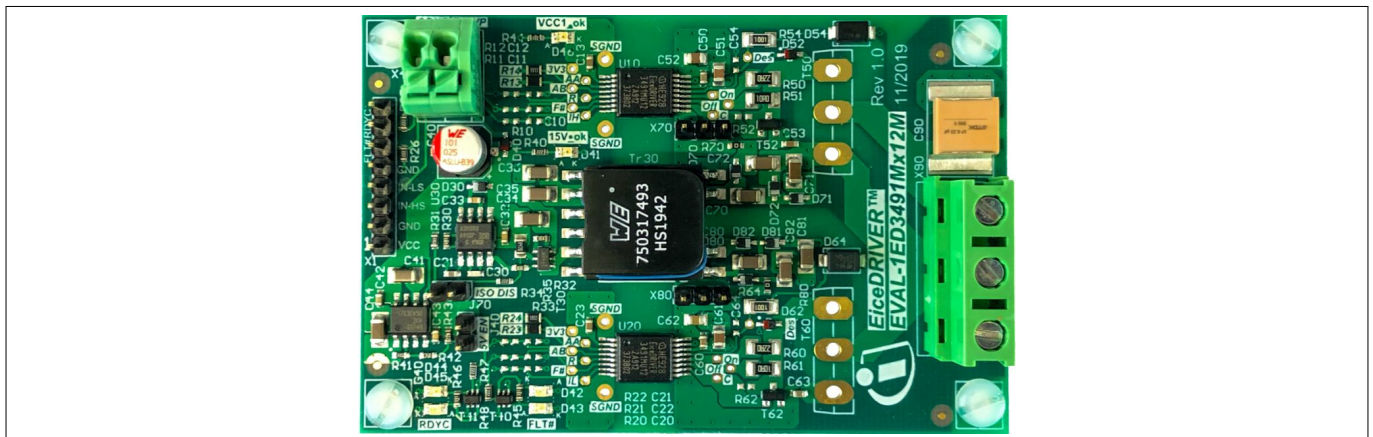

Figure 1 EVAL-1ED3491Mx12M top view
- Evaluation board in half-bridge configuration with two gate driver ICs to drive power switches such as IGBTs, Si MOSFETs, and CoolSiC™ SiC MOSFETs. The switch type can be freely chosen as seen in Figure 1